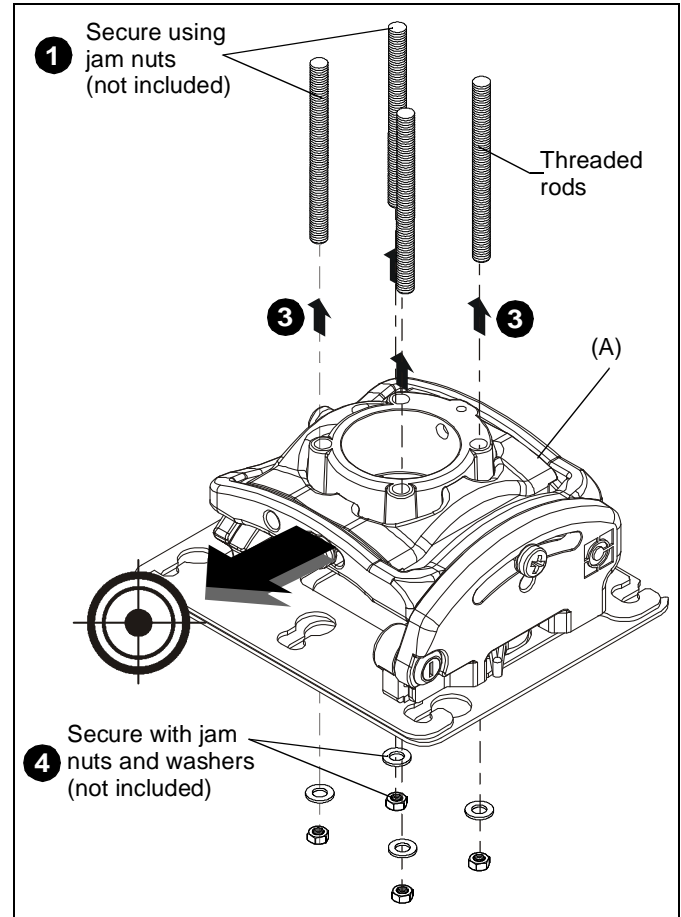

Figure 7
4. Secure the threaded rods to the RPMX with Grade 2 or better 1/4-20 jam nuts (not included) and 1/4" washers (not included). (See Figure 7)